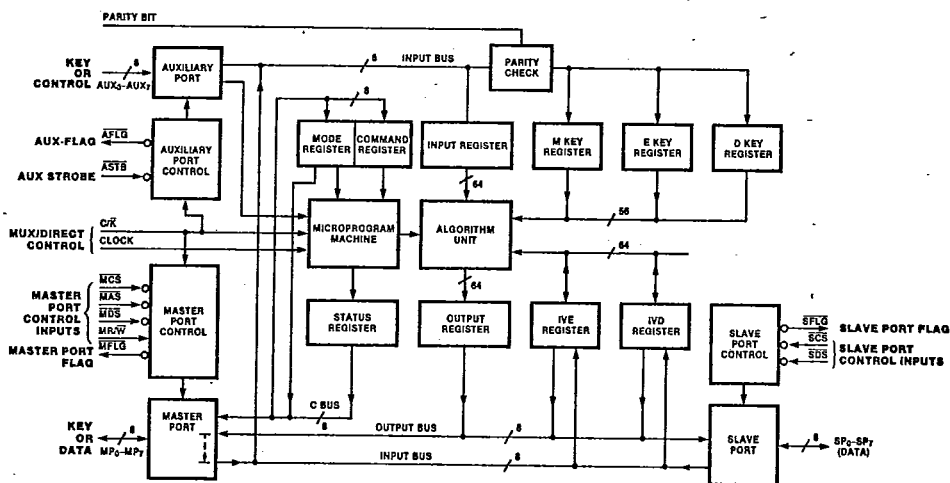

Figure 3. Z8068/Z9518 Block Diagram
The overall design of the DCP, as shown in Figure 3, is optimized to achieve high data throughput. Data bytes can be transferred through both the master and slave ports, and key bytes can be written through both the auxiliary and master ports. Three 8-bit buses (input, output and C bus) carry data and key bytes between the ports and the internal registers. Three 56-bit, write-only key registers are provided for the Master (M) Key, the Encryption (E) Key and the Decryption (D) Key. Parity checking is provided on incoming key bytes. Two 64-bit registers are provided for initializing vectors (IVE and IVD) that are required for chained (feedback) ciphering modes. Three 8-bit registers (Mode, Command and Status) are accessible through the master port.
Algorithm Processing. The algorithm processing unit of the DCP (Figure 3) is designed to encrypt and decrypt data according to the National Bureau of Standards' Data Encryption Standard (DES), as specified in Federal Information Processing Standards Publication 46. The DES specifies a method for encrypting 64-bit blocks of clear data ("plain text") into corresponding 64-bit blocks of "cipher text."